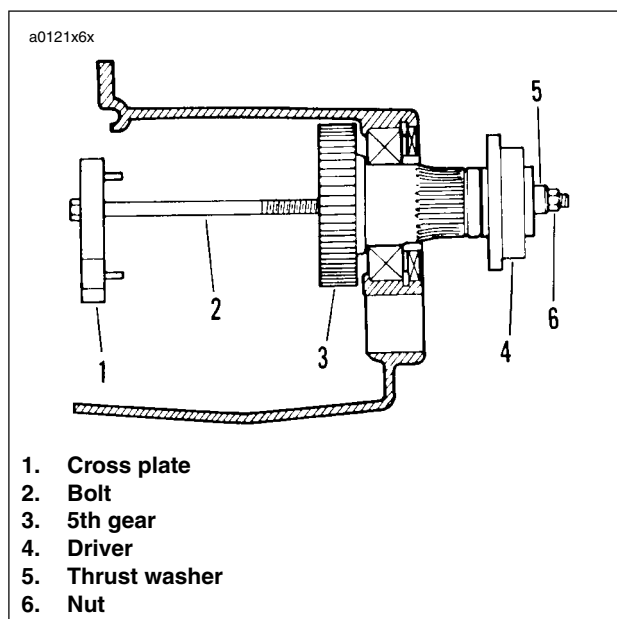

Figure 6-39. Removing Main Drive Gear
6. See Figure 6-39. Insert bolt (2) through cross plate (1) and 5th gear (3).